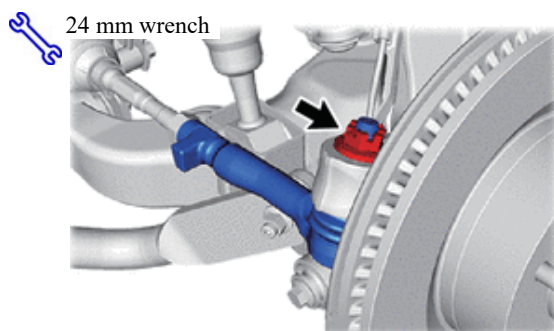

Fig. 7-12
(1) Remove the clip and nut. Discard (Fig. 7-12).